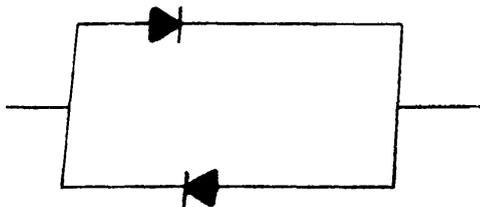

FIGURE 2
- 2.123 A varistor can be thought of as two diodes connected together as shown in Figure 2.